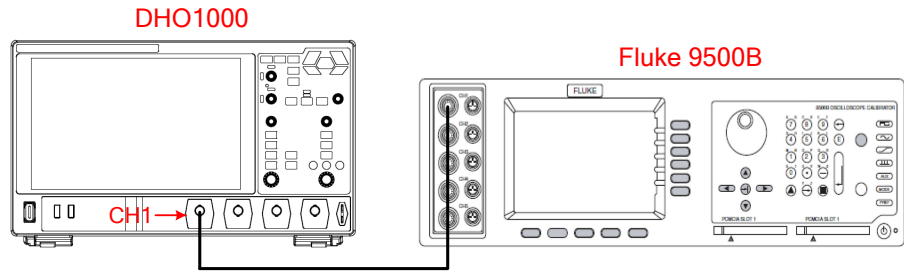

Figure 5.2 Input Capacitance Test Connection Diagram
1. Connect the active head of Fluke 9500B to CH1 of the oscilloscope, as shown in *Figure 5.2*.